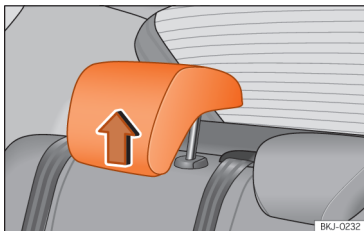

Fig. 86 Head restraints in the correct position.
- One position for **use** (head restraint raised) » **Fig. 86**. In this position, the head restraints are used normally, protecting passengers along with the rear seat belts.